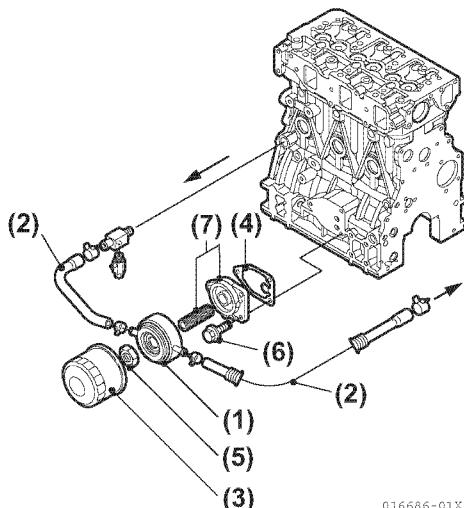
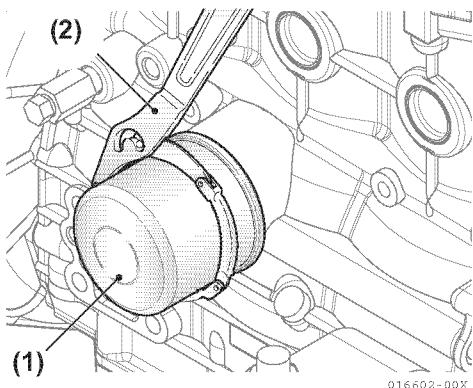

Figure 8-7
Figure 8-8
7. Remove coolant pipes (cylinder block, engine oil cooler (Figure 8-7, (1)), engine oil cooler outlet (Figure 8-7, (2))).
8. Turn lubricating oil filter (**Figure 8-7, (3)**) counterclockwise using a filter wrench (**Figure 8-8, (2)**) to remove from lubricating oil cooler (**Figure 8-7, (4)**).
9. Remove lubricating oil cooler nut (**Figure 8-7, (5)**) and lubricating oil cooler. Loosen bolts (**Figure 8-7, (6)**) for filter bracket and remove filter bracket (**Figure 8-7, (7)**).
14. Coat the new lubricating oil filter seal with lubricating oil and install the lubricating oil filter (**Figure 8-8, (1)**) manually turning it clockwise until the seal touches the mounting surface, and tighten it further to 3/4 of a turn using a filter wrench (**Figure 8-8, (2)**).